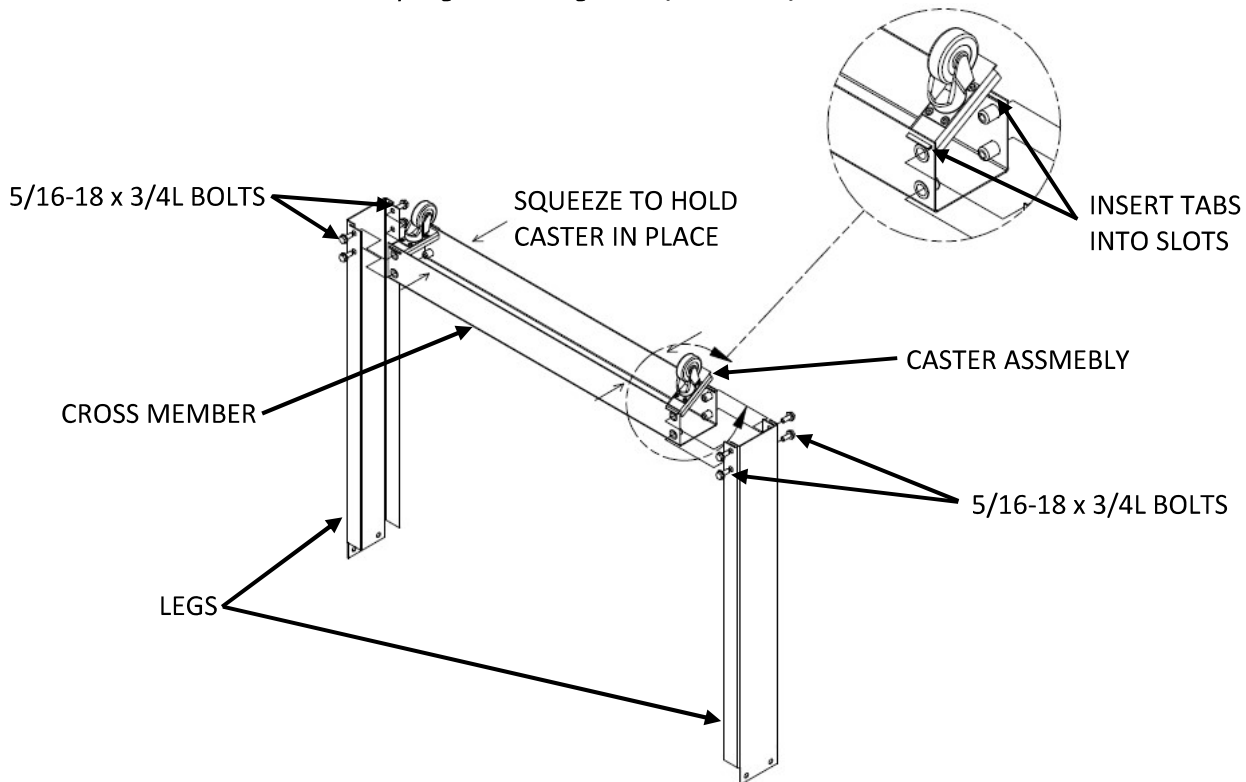

Figure 2
4. Insert the tabs on the **CASTER ASSEMBLY** into the slots in the **CROSS MEMBER FOR LEGS**, then squeeze the **CROSS MEMBER** to hold the **CASTER ASSEMBLIES** in place (see **Figure 2**).
6. Use four **5/16-18 x 3/4L BOLTS** to attach each **LEG** to the **CROSS MEMEBERS** (see **Figure 2**).